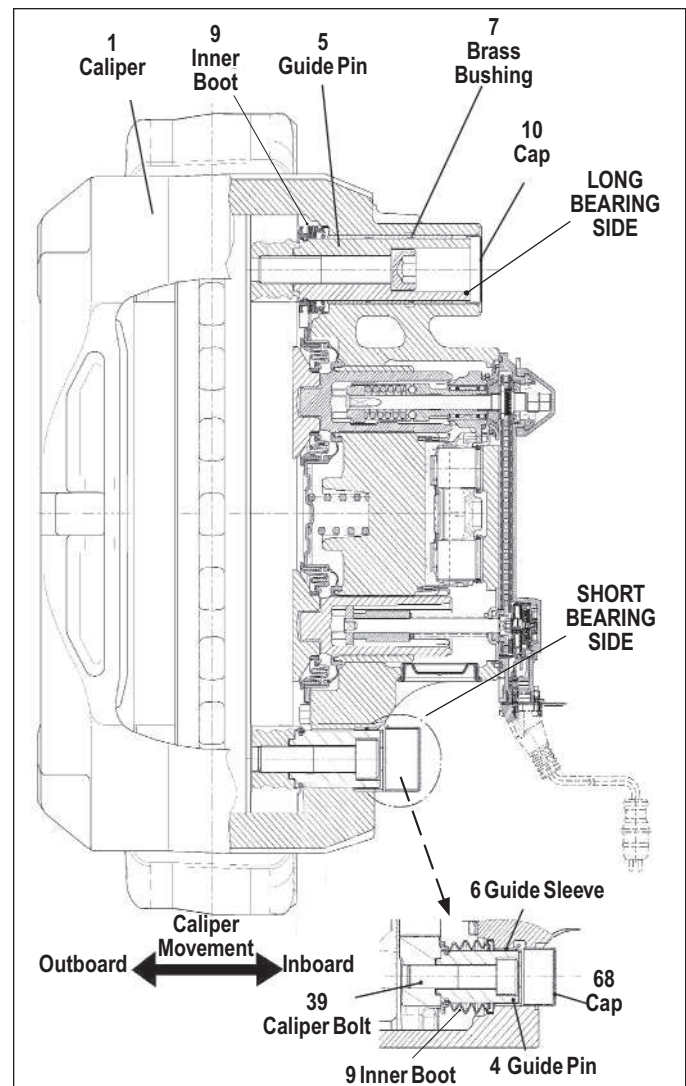
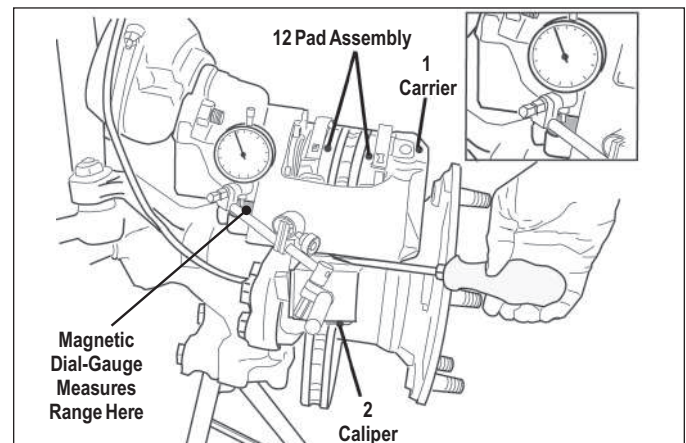

Figure 26 – Guide Pins
Figure 27 – Magnetic Dial-Gauge In Use
4.5.2 See Figures 26 and 27. With the wheel removed, remove the pad retainer bar (11). Temporarily replace the pads with two new pads (12). Attach a magnetic dial-gauge holder to the carrier (2) on the short bearing side of the caliper (1). Use the measuring point on the caliper (1) – see the callout in Figure 27. Press the caliper in the direction of the carrier (2) and set the dial-gauge to zero.
4.5.3 Place a suitable tool (e.g. a large flat-blade screwdriver) between carrier (2) and caliper (1) and use light hand force to move the caliper away from the carrier, until the movement stops. Read the maximum value on the dial-gauge. See Figure 27.